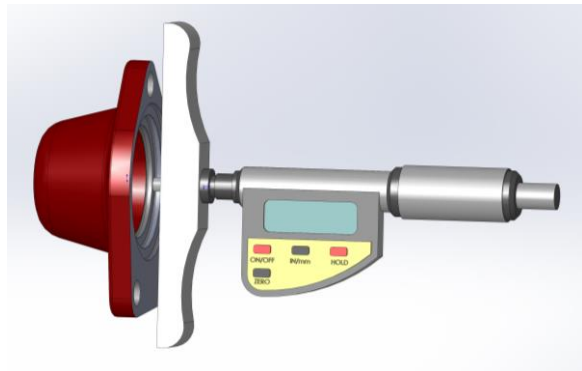

Fig. 14
2. Measure the depth of the recess in the output shaft end cover as in Fig. 14 , and make up the difference between the two dimensions with shims.